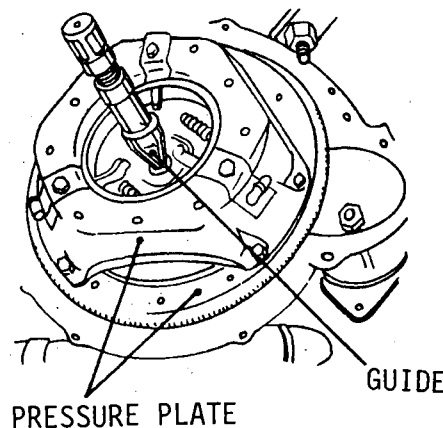

Fig. 1
- a) With the aid of a guide, centre the clutch disc, (fig.1), if necessary.